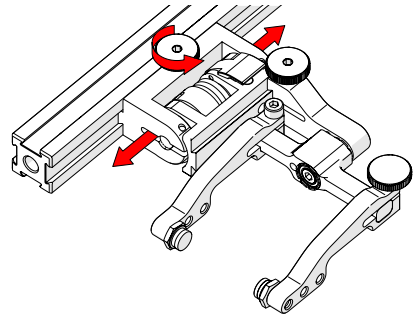

Fig. 63 - Adjust on frame bar
2. Use the probe holder adjustment knob to position the probe holder along the frame bar (Fig. 63).